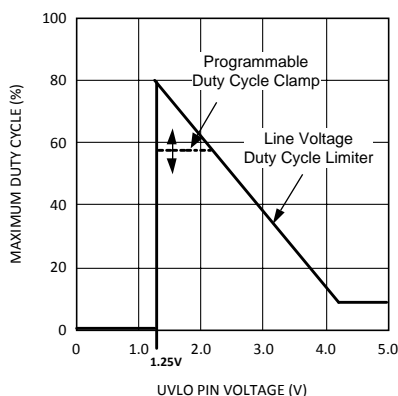

Figure 9. Maximum Duty Cycle vs UVLO Voltage
**Line Voltage Duty Cycle Limiter** - The maximum duty cycle for the main output driver is also limited by the voltage at the UVLO pin, which is normally proportional to VIN. The controller outputs are disabled until the UVLO pin voltage exceeds 1.25V. At the minimum operating voltage (when UVLO = 1.25V) the maximum duty cycle starts at the duty cycle clamp level programmed by the DCL pin voltage (80% or less). As the line voltage increases, the maximum duty cycle decreases linearly with increasing UVLO voltage, as illustrated in Figure 9. Ultimately the duty cycle of the main output is controlled to the least of the following three variables: the duty cycle controlled by the PWM comparator, the programmable maximum duty cycle clamp, or the line voltage dependent duty cycle limiter.
The oscillator frequency set resistance ( $R_T$ ) must be determined first before programming the maximum duty cycle. Following the selection of the total  $R_T$  resistance, the ratio of the  $R_T$  resistors can be designed to set the desired maximum duty cycle. As the UVLO pin voltage increases from 1.25V, the maximum duty cycle is reduced by the voltage dependent duty cycle limiter previously as described and illustrated in Figure 9.